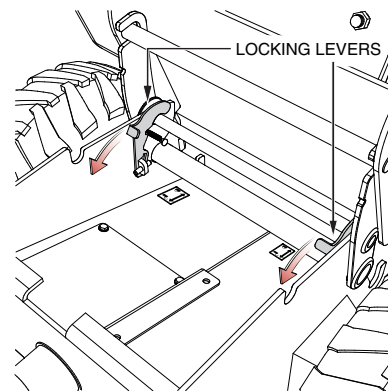

Figure 26. Locking Levers (Unlock)
1. Place both locking levers in the **unlock** position (Figure 26).